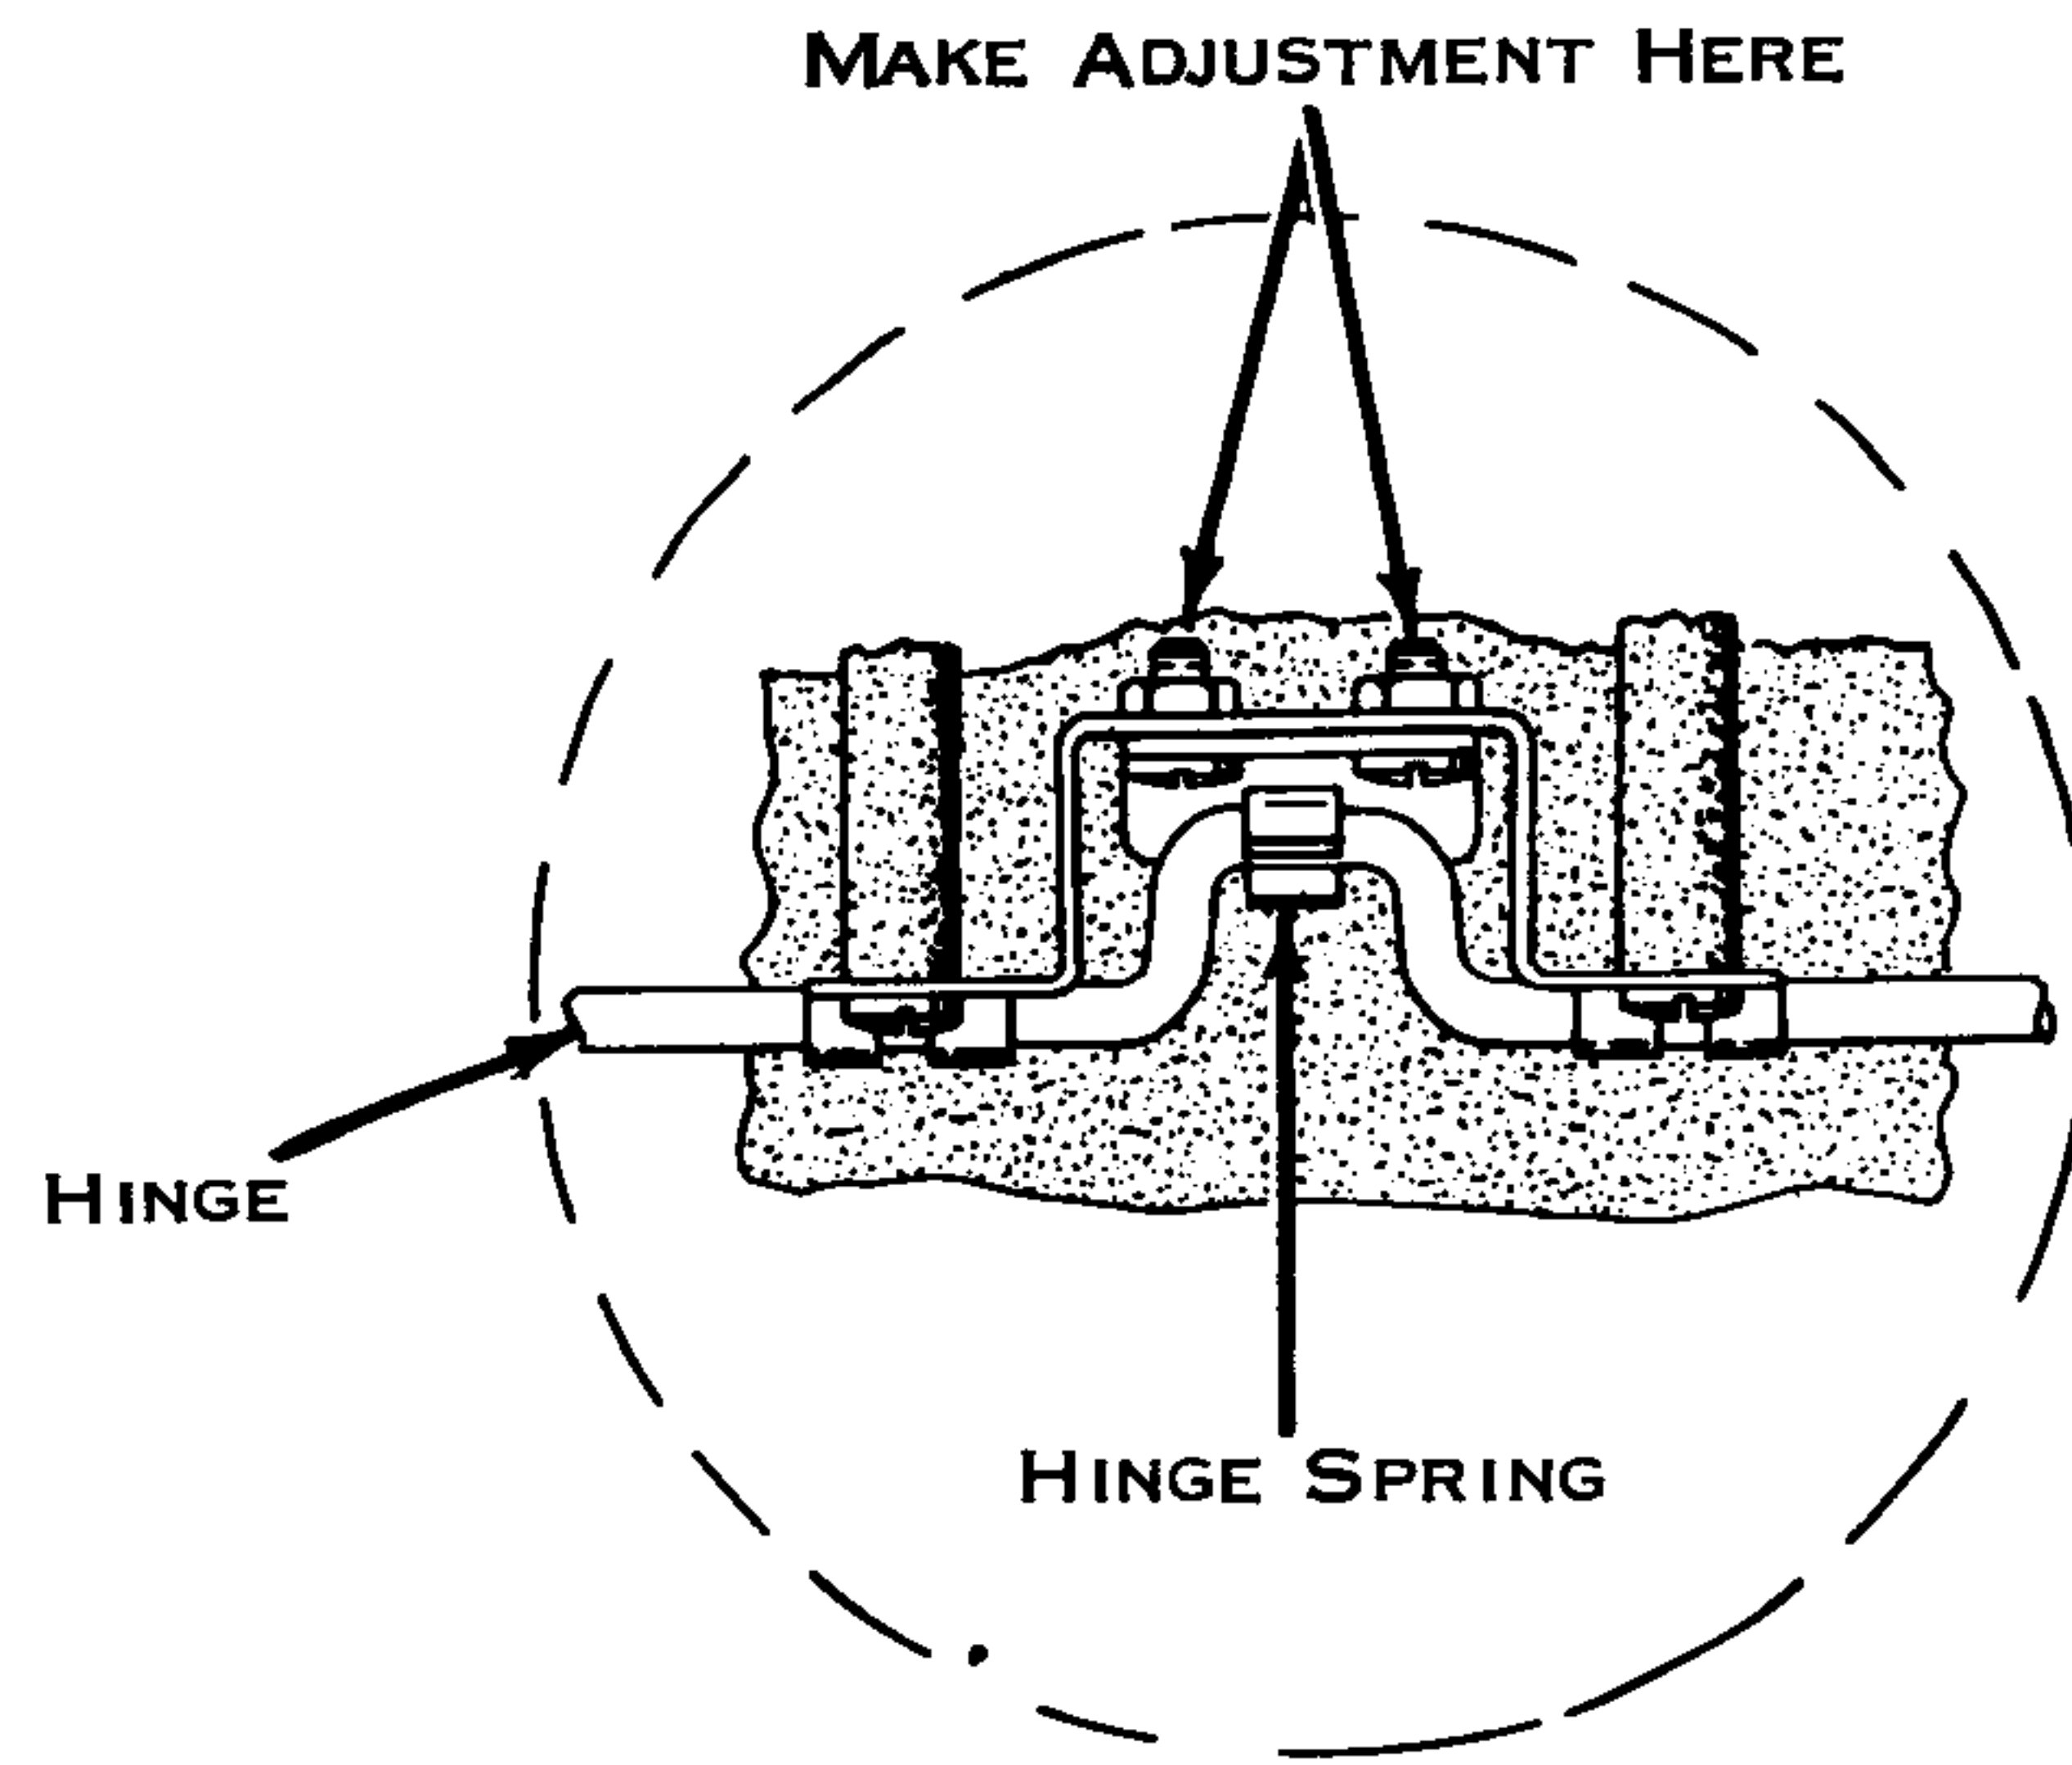

Figure 223. Hinge Spring
3. Hinge Spring (Fig. 223) - Position so that the top cover will be detented and held in the open position.